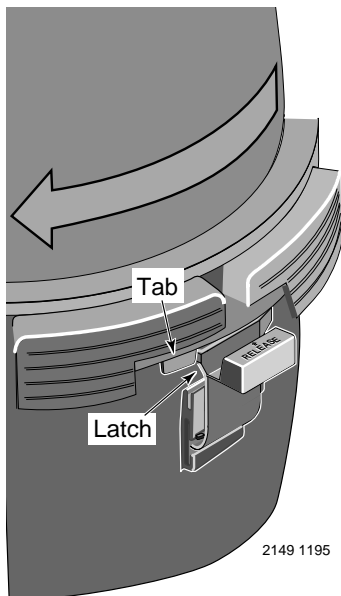

Figure 4 – Rotate Posi-Lok™ Ring until tab locks behind the safety latch.
1. Securely lock Posi-Lok™ ring in place by rotating ring CLOCKWISE until it “clicks” past the safety latch (see Figure 4). Stop turning as soon as the ring clicks past the latch. The ring may feel slightly loose, but it will tighten up when pump is on and filter is under pressure.
- D. Rotate the Posi-Lok™ clockwise until it locks behind the safety latch (see Figure 4).